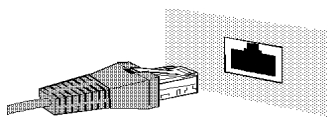

Figure 11. An RJ-41 Connector
4. Align the wand or laser's connector with the connector on the module. The wand or laser's connector has a tab that must line up with the slot in the module's connector (refer to Figure 11). Push the connector in until the locking tab clicks into place. Press down on the tab with a small screwdriver or the stylus tip to disconnect.